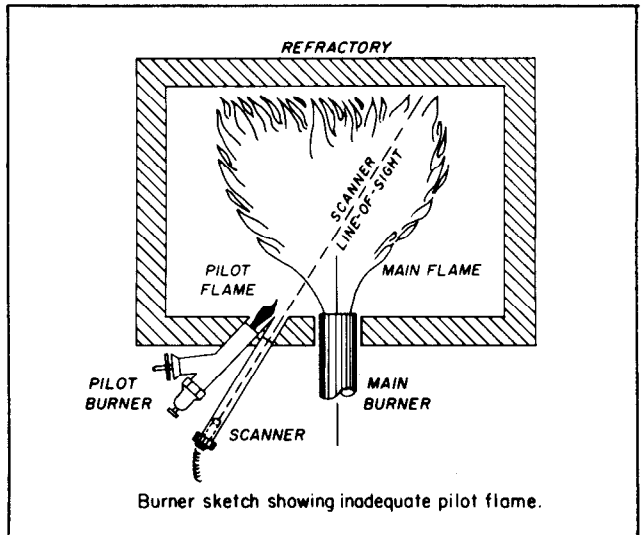

Figure 14
13. Reduce the size of the pilot until the flame relay is observed to drop out, then slowly increase the size of pilot flame just to the point where the flame relay pulls in. This is called minimum pilot. (Note Figs. 14, 15, 16.)